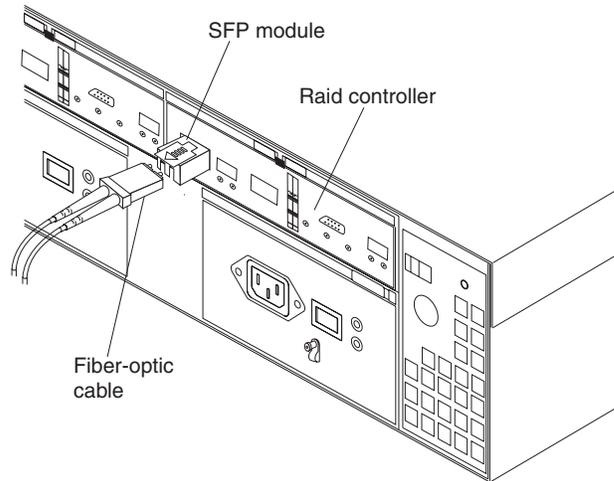

Figure 49. Location of SFPs and fiber-optic cables
6. From the first RAID controller to be upgraded, remove the fibre-channel cables from the SFPs. The location of these components is shown in Figure 49 on page 64.